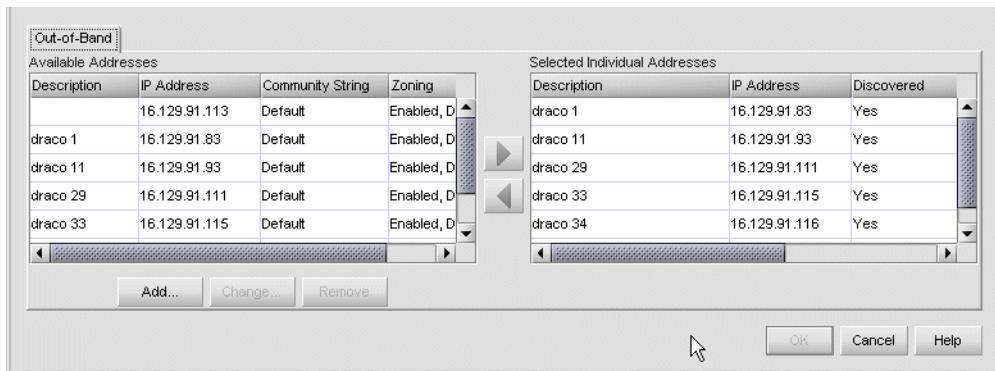

Figure 14 Discover Setup dialog box
1. At the HAFM application (Element manager or EWS main window), select **Setup** from the Discover menu. The Discover Setup dialog box is displayed (Figure 14).